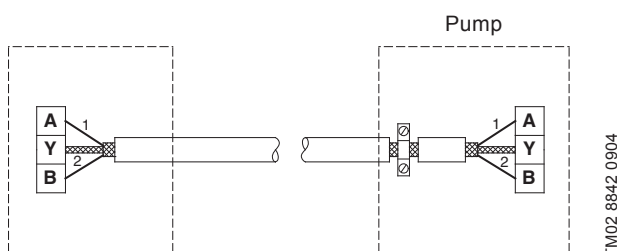

Fig. 17 Connection with screened 2-core cable
- If a screened 2-core cable is used in the existing installation, connect it as shown in fig. 17.